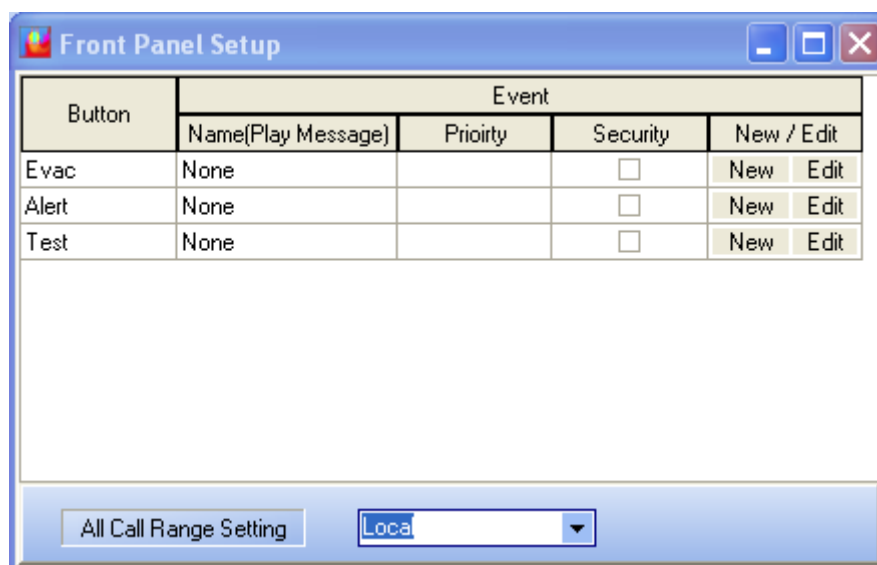
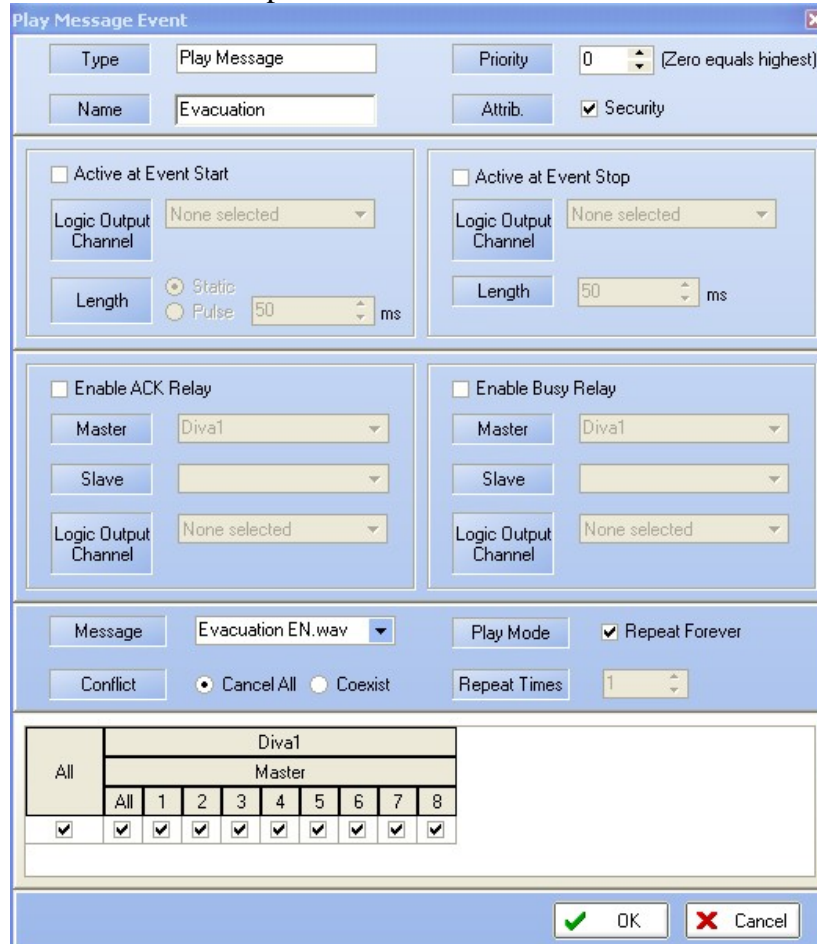

Figure 16: “Front Panel Setup” window
Figure 17: “Message Event” edit page
- Click, under DIVA icon, the “Front Panel Setup” (Figure 16). You need to assign an event to the message buttons of the front panel (Evac, Alert and Test). For each button, make a new event and then edit the events (example on Figure 17).
- In dedicated area of “Play Message Event” window (Figure 17), change the name, choose a priority and tick if it’s a security message or not. Under “Message” emplacement, choose with the drop-down menu the right message for the event. You